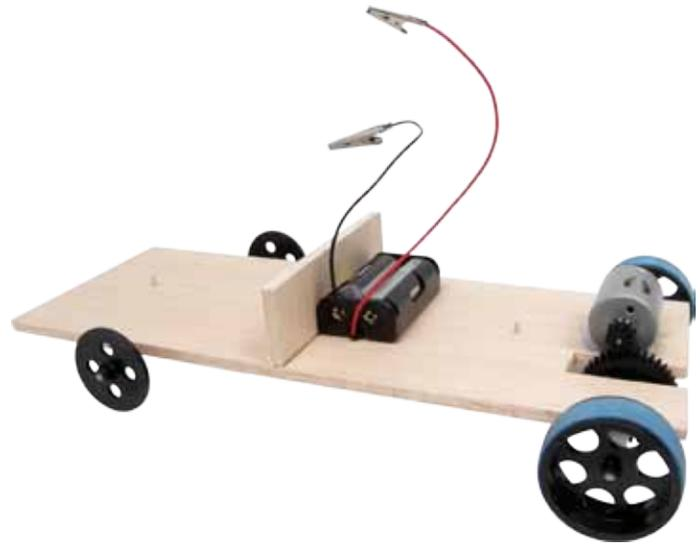

Figure 6
5. Position the battery holder behind the panel support member (Figure 6). Make sure the leads are on the same side of the chassis as the motor terminals.